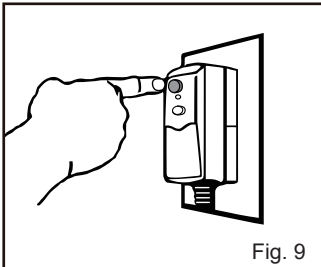

Fig. 9
- Unwind the power cord completely and plug the GFCI into a 120 volt outlet. Press the "TEST" button on the GFCI, power will be cut and indicator will fade. Do not use if this test fails. We recommend pressing the test button each time the pressure washer is used to ensure the protector works. Press the RESET button, the indicator light will come on when the power is on (Fig. 9).